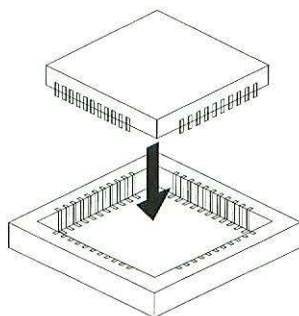

Figure 2 Installation Procedures
3. Push back on the SIMM until it snaps into place (see Figure 2-A).
2. Grasp each end of the card and gently push the card into the slot as shown in Figure 2-B.
2. Position the teeth of the removal tool in the groove between the chip and the socket (see Figure 2-C).
3. Align the pins in the socket and gently press down on the chip (see Figure 2-D).